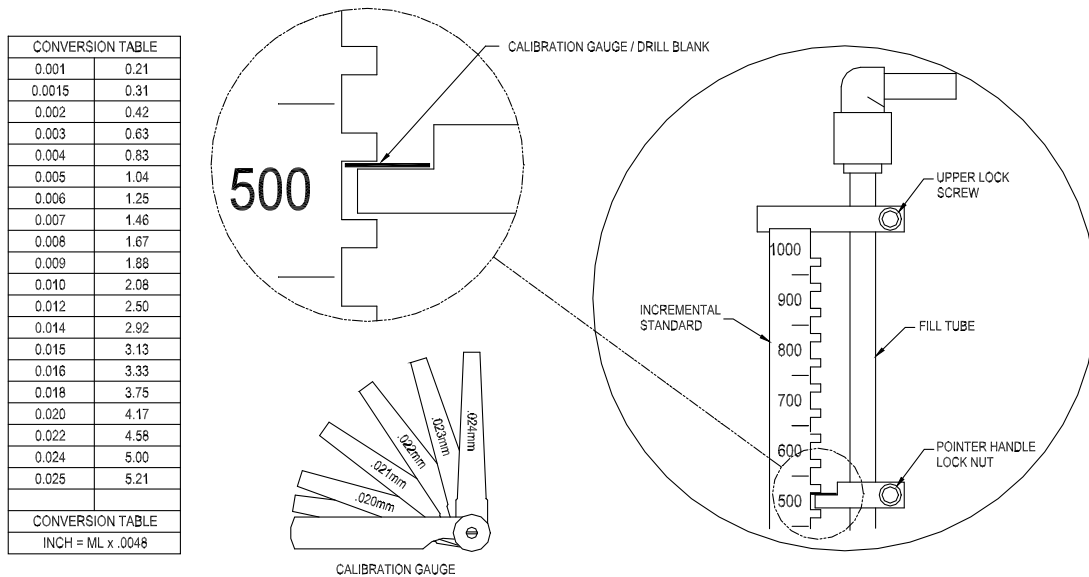

Figure 6-1
3. Fine adjustment is accomplished by accurately adjusting the pointer position on the fill tube (see figures 6-1 and 6-2). The pointer must be moved approximately 0.0048 in. per mL of volume delivery change.
2. Using the calibration gauge (p/n 91-902-045), select a size which corresponds with the required volume change [Volume Change  $\times$  .0048] or refer to the conversion chart in figure 6-1.
3. Place the calibration gauge between the pointer and the upper side of the incremental standard notch (see figure 6-1).
See figures 6-1 and 6-2.